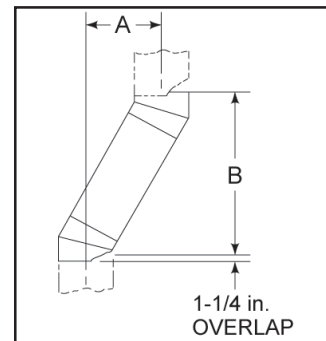

Figure 7 - Chimney Offset/Return
- 1) Measure how far the chimney needs to be shifted to enable it to avoid the overhead obstacle. See Figure 7, dimension “A” to determine chimney sections required to achieve the needed shift.
Example: Your “A” dimension from Figure 7 is 14-1/2 in. Using Table 1 the dimension closest to, but not less than 14-1/2 in. is 14-5/8 in. using a 30-deg offset/return. It is then determined from the table that you would need 33 in. (Dimension “B”) between the offset and return. The chimney components that best fit your application are two SL312s.